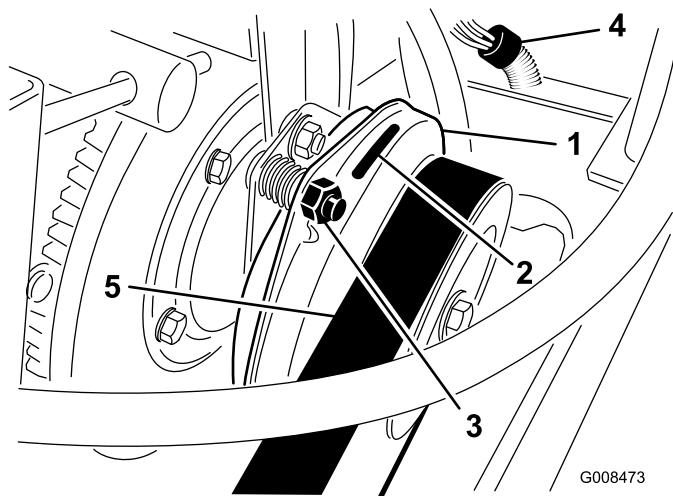

Figure 43
2. Unplug clutch electric connector (Figure 43).
3. Adjust the air gap so that a .015 inch feeler gauge slides in between the clutch lining and friction plate with light pressure (Figure 43). The gap can be decreased by turning the adjusting nut clockwise (Figure 43). The maximum service gap is 0.030 inch.